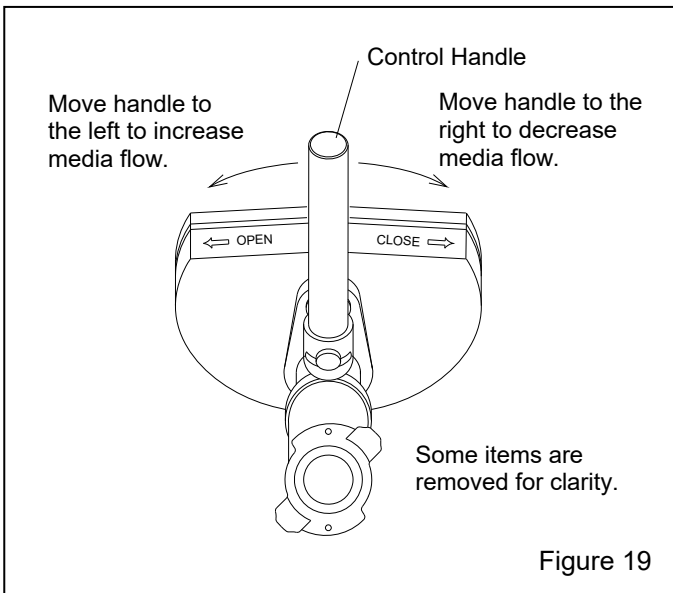

Figure 19
5.2 Media Metering (media flow) – Figure 19
These instructions and the illustration in Figure 19 are for a standard cabinet with Sentinel metering valve. Optional metering valves may function differently, but the process is similar. Refer to the metering valve owner's manual for the operation of the valve provided.